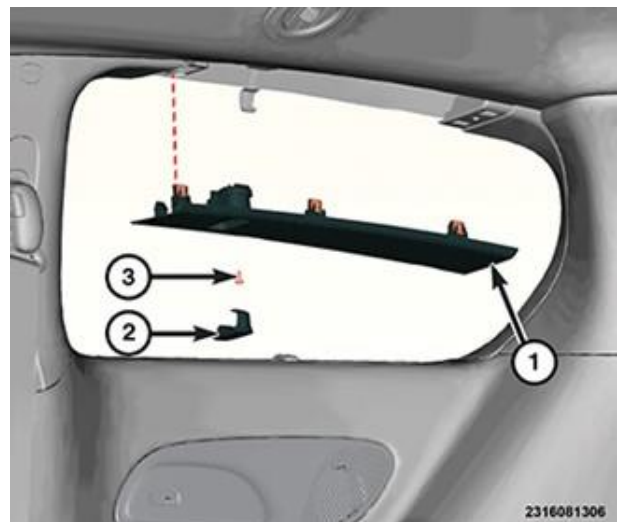

Figure 9 – C-Pillar Extension Trim
- 24. Using a trim stick or equivalent, remove the C-pillar extension trim panel (Figure 9).